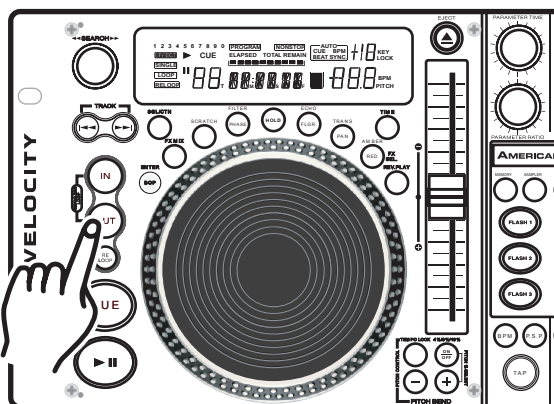

Figure 21
REPLAY LOOP - The **RELOOP (1)** function allows you to return to your stored loop at any time. The **IN BUTTON (32)** and **OUT BUTTON (2)** LEDs will indicate a loop is stored in memory, and may be played at any time. To replay the loop, press the **RELOOP BUTTON (1)**. The **IN BUTTON (32)** and **OUT BUTTON (2)** LEDs will again begin to flash indicating SEAMLESS LOOP mode has been activated (Figure 21) and your stored loop will immediately begin to play.
- 2) Press the **OUT BUTTON (2)** again when you reach your new ending point (Figure 21).
- **FOR A SHORTER LOOP:** Press the **OUT BUTTON (2)** at sooner point in the track (Figure 21).
- **FOR LONGER LOOP:** Press the **OUT BUTTON (2)** at later point in the track (Figure 21).